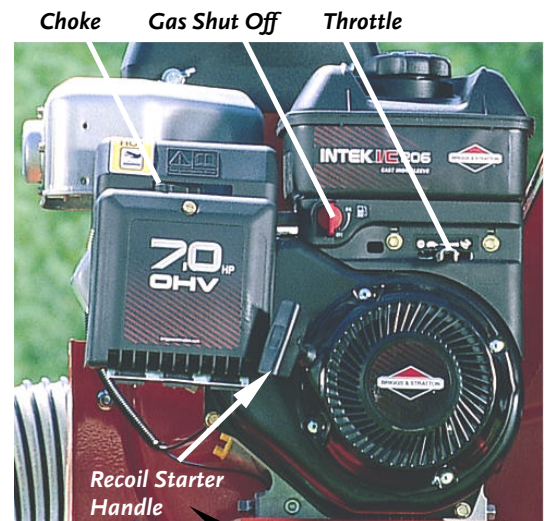

Figure 27
4. Turn the Gas Shut-Off Valve to the OPEN position (**Figure 27**).
1. When starting a cold engine; push the Choke Control lever to the right (CHOKE) and the Throttle Control lever to the far right (**Figure 27**).
3. After the engine starts, slowly push the Choke Control lever to the left (RUN) position (**Figure 27**). Wait until the engine runs smoothly before each choke adjustment. For best engine performance, you should operate the engine with the Throttle in the Fast (Rabbit) position (**Figure 27**).
4. **To stop the engine**, move the Throttle to the Slow (Turtle) position allowing the engine to idle, and then move the lever to STOP (Stop Sign) position (**Figure 27**).